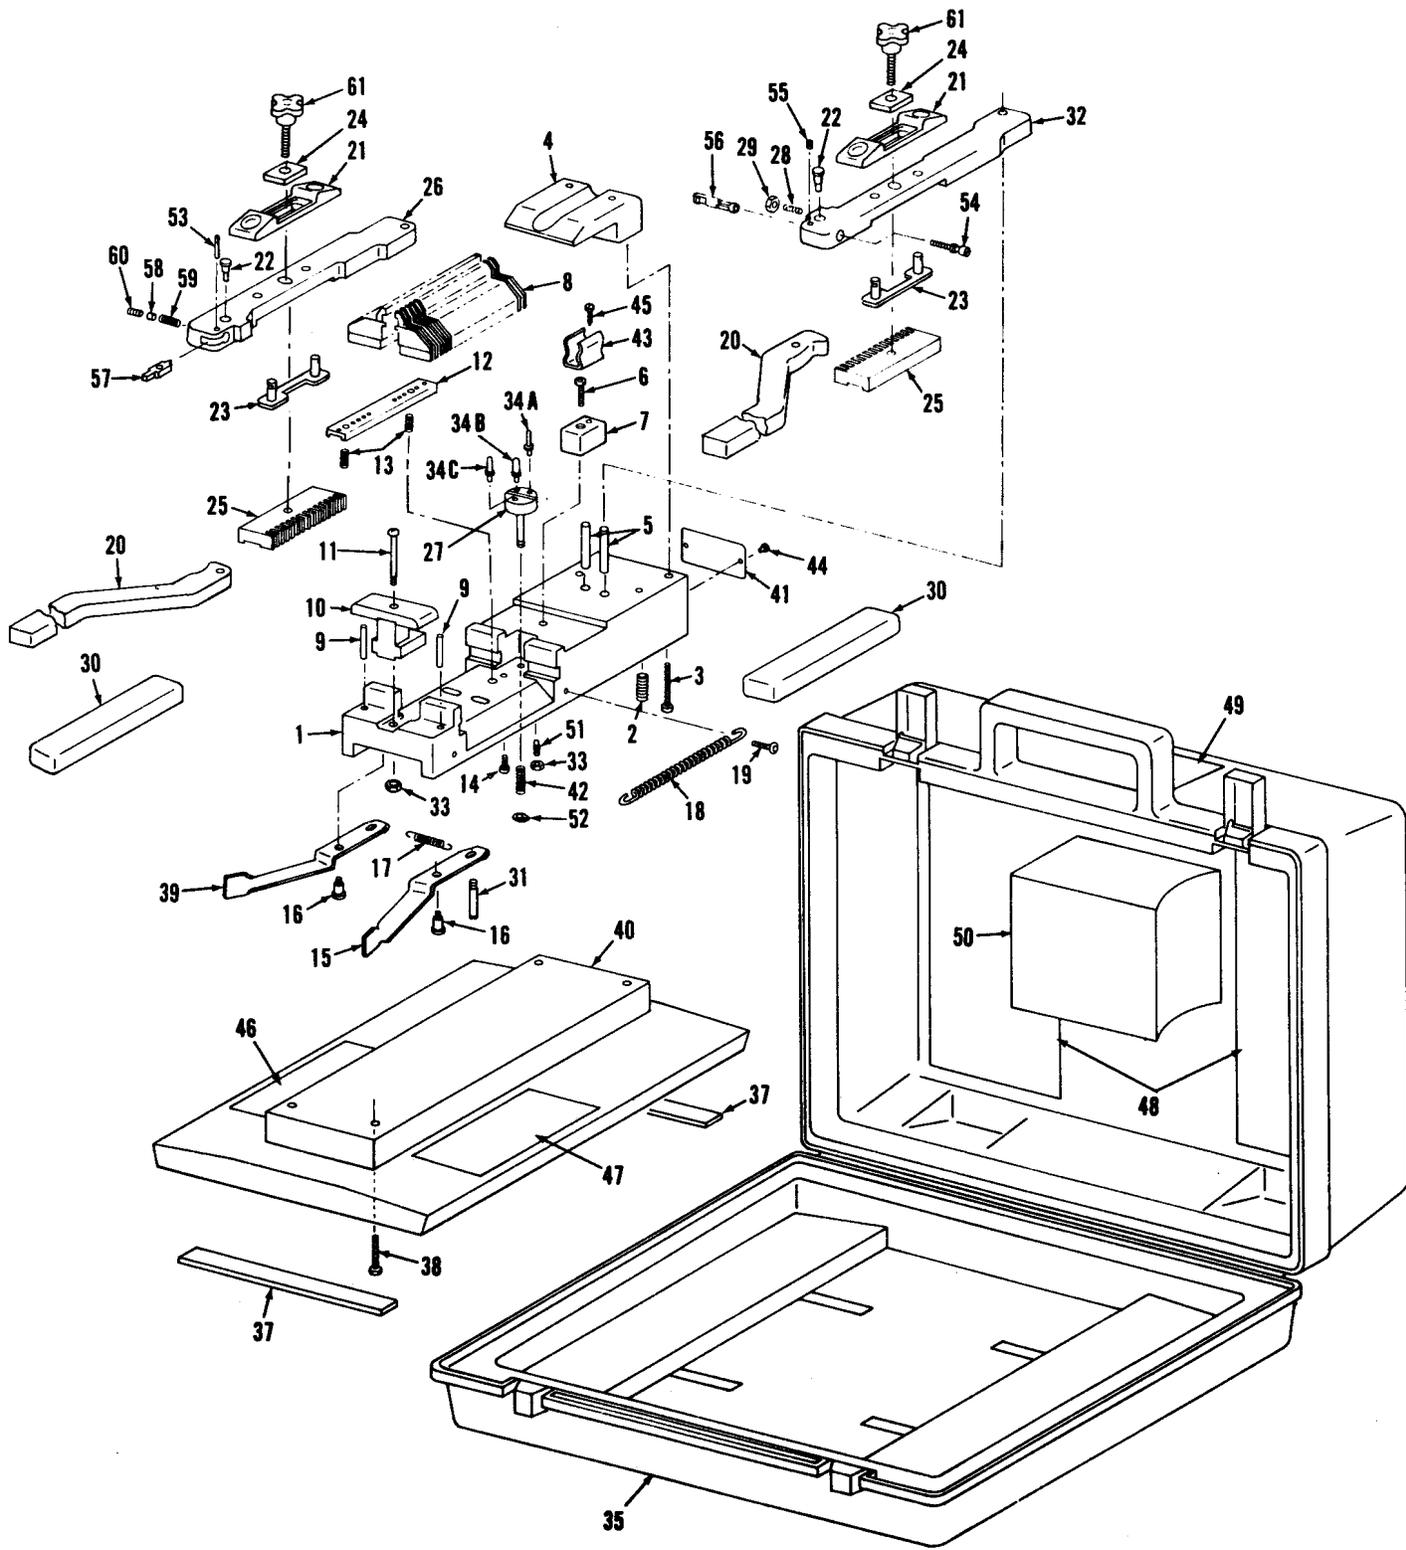

Figure 5-1. Multiwire Termination Tool, Exploded View
The instructions in the following paragraphs are important for the correct operation of the wire termination tool. Figure 5-1 is an exploded view of the tool and Section V contains the parts list.
Periodically lubricate all wear areas (see Figure 5-1) on combs (8), comb spreader pin (31), comb levers (22, 23), tooth carriers (26, 32), pivot pins (22, 9) and spring ends (17) by applying a thin coat of Molykote Number 505. Wipe off all excess lubricant.
To insure that wire insertion depth is correct, adjust setscrew (28) on right hand tooth carrier (32) as follows (refer to Figure 5-1):
- c. Check that spacing between tooth plates (25) is 0.095–0.105 inch. If not as specified, loosen nut (29) and adjust setscrew (28) for correct spacing and tighten nut.
- e. Check that spacing between tooth plates (25) is 0.185–0.195 inch.
- f. Setscrew (28) should come in contact with left hand tooth carrier (26) with tool handles closed together after final adjustment.
Replacement parts for the Amphenol wire termination tool are shown in the exploded view, Figure 5-1, and in the accompanying parts list.